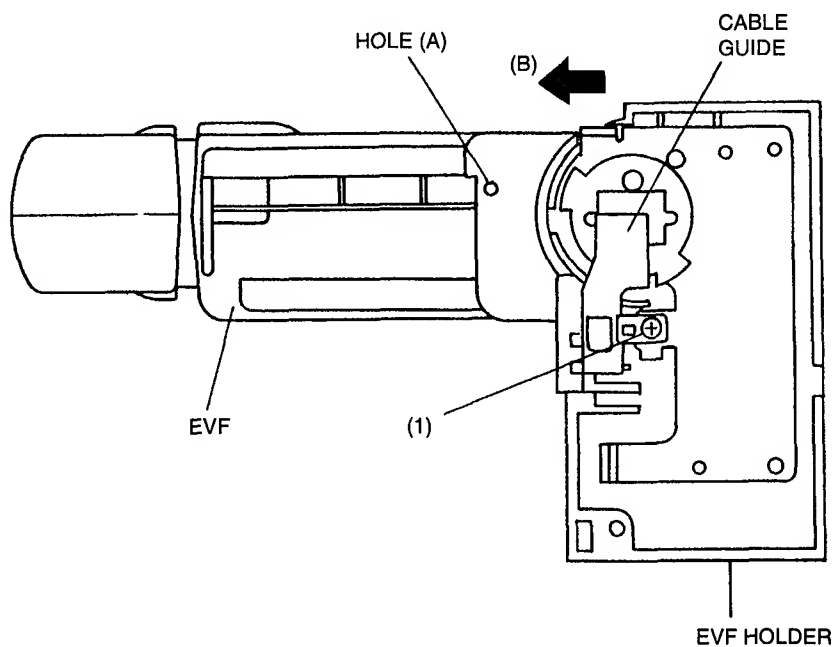

Fig. 2-8
- 1) Set the EVF to the position shown in Fig. 2-8.
- 2) Remove 1 screw (1) holding the cable guide.
- 3) Insert a thin screwdriver into hole (A) in the EVF holder and then remove the EVF holder in the direction of arrow (B).
- 4) Release 2 tabs (2) of the cable holder.